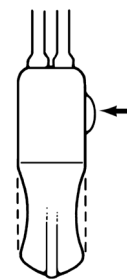

Figure 4-39. Press Deactivation Button When Slight Indention Felt
3. When slight indentation in pump bulb is felt, press the deactivation button (**Figure 4-39**).